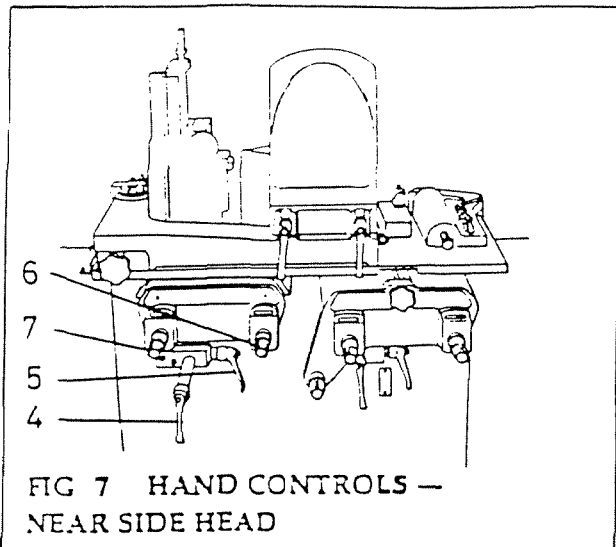

FIG 7 HAND CONTROLS -
(4) Set the sliding bedplate using adjusting knob (9) to within 5mm of the cutterblock.
**NEAR SIDE HEAD** (Fig 6, Fig 7)
(1) Ensure that the machine bed is clean.